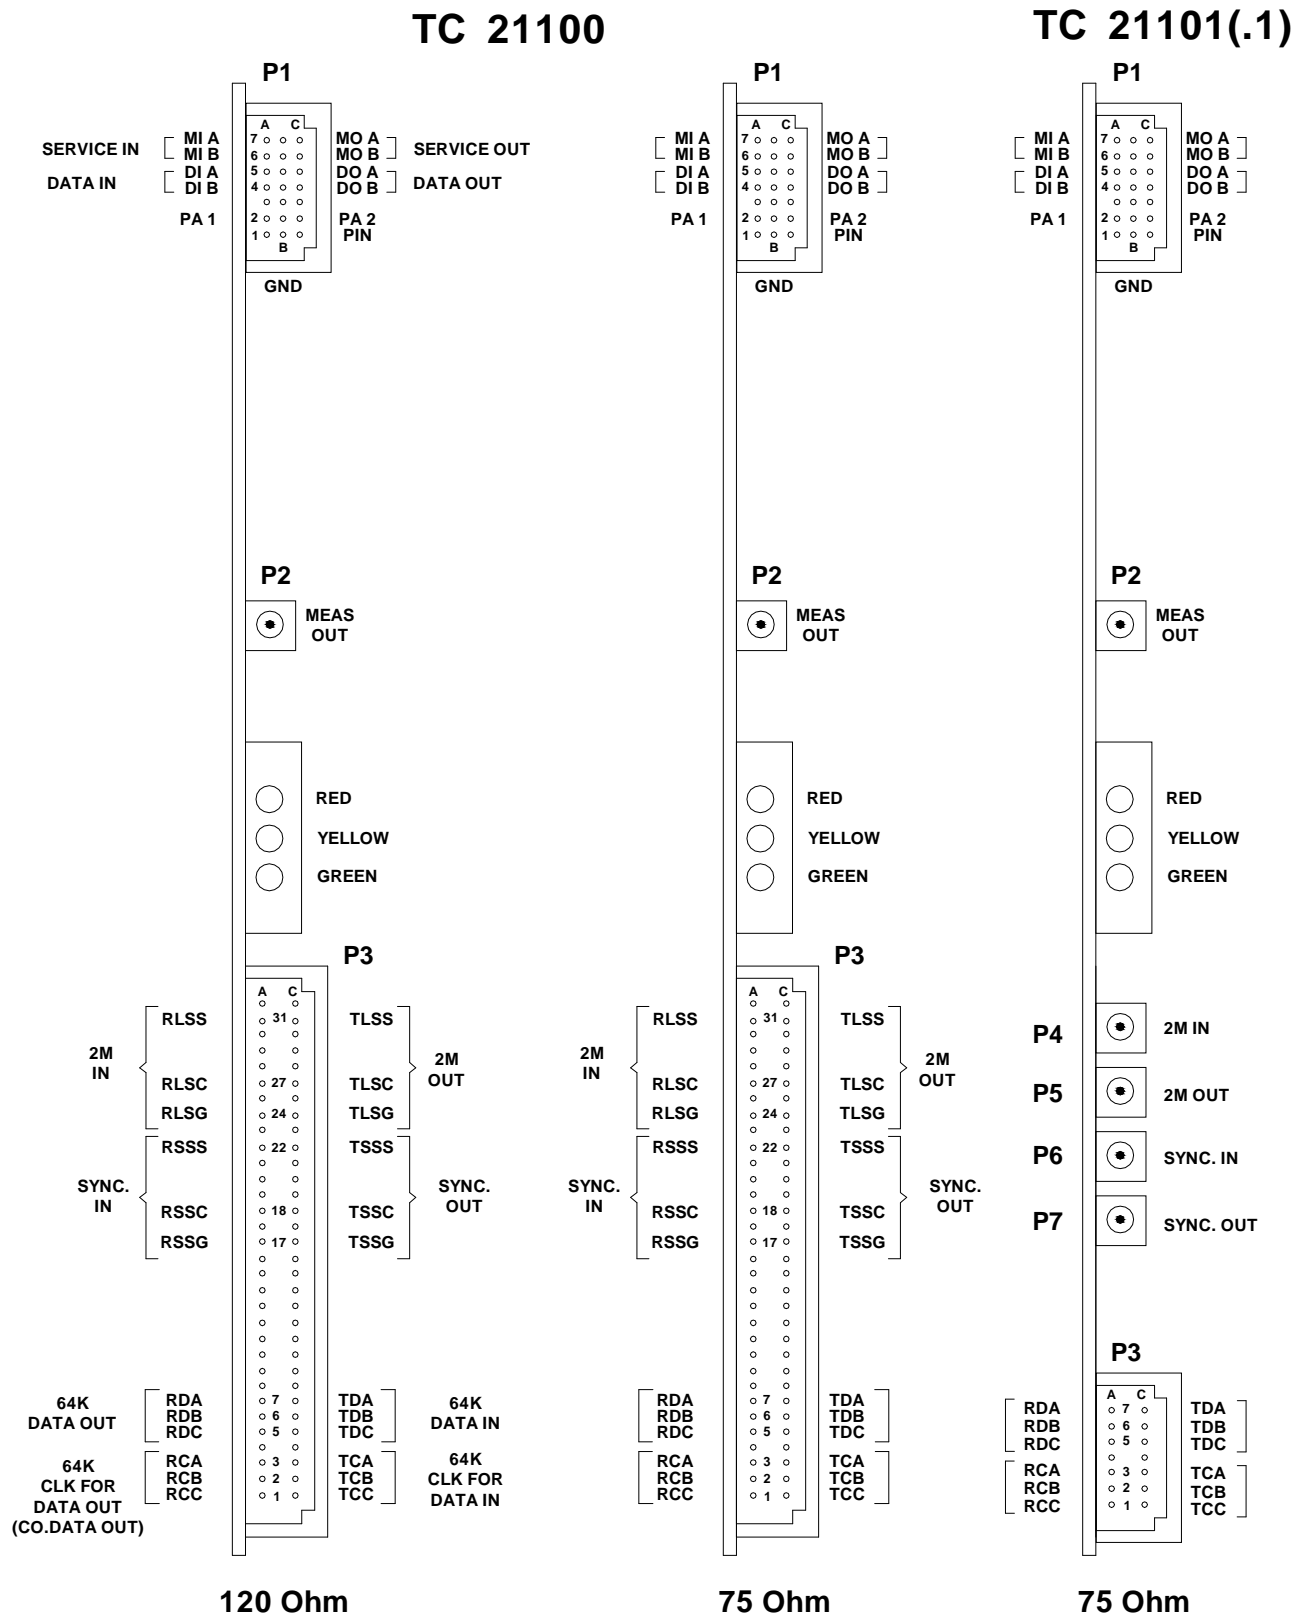

Figure 3.8 Connectors for MUX unit versions
Service connector P1: Service connector P1 has the service interface (MI), the data channel interface (DI) and the programmable alarm interfaces (PA1, PA2, PIN) of the DM 2 equipment. DM 2 is connected to Service Terminal or centralized Transmission Management System (TMS) via service interface. The equipment data channel working on the sampling principle is taken into use via data channel interface. Alarm interface consists of equipment-specific programmable alarm outputs (PA1, PA2) and a programmable alarm input (PIN). Please refer fig.3.8